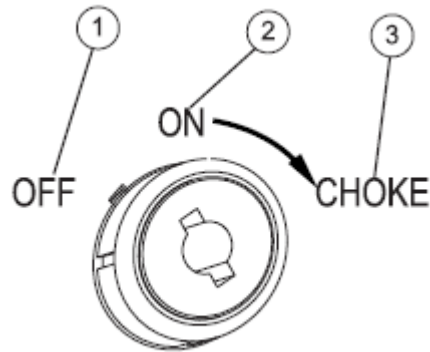

Figure-6 Switch (Example)
- * This controls the ON / OFF functions choke and fuel valve operation. See **Figure-6**
- * The “OFF” position (1) stops the engine and shuts off fuel flow.
- * The “ON” position (2) is for normal operation and to gradually reduce the use of the choke.
- * The “CHOKE” position (3) switches the fuel valve on to start the engine.